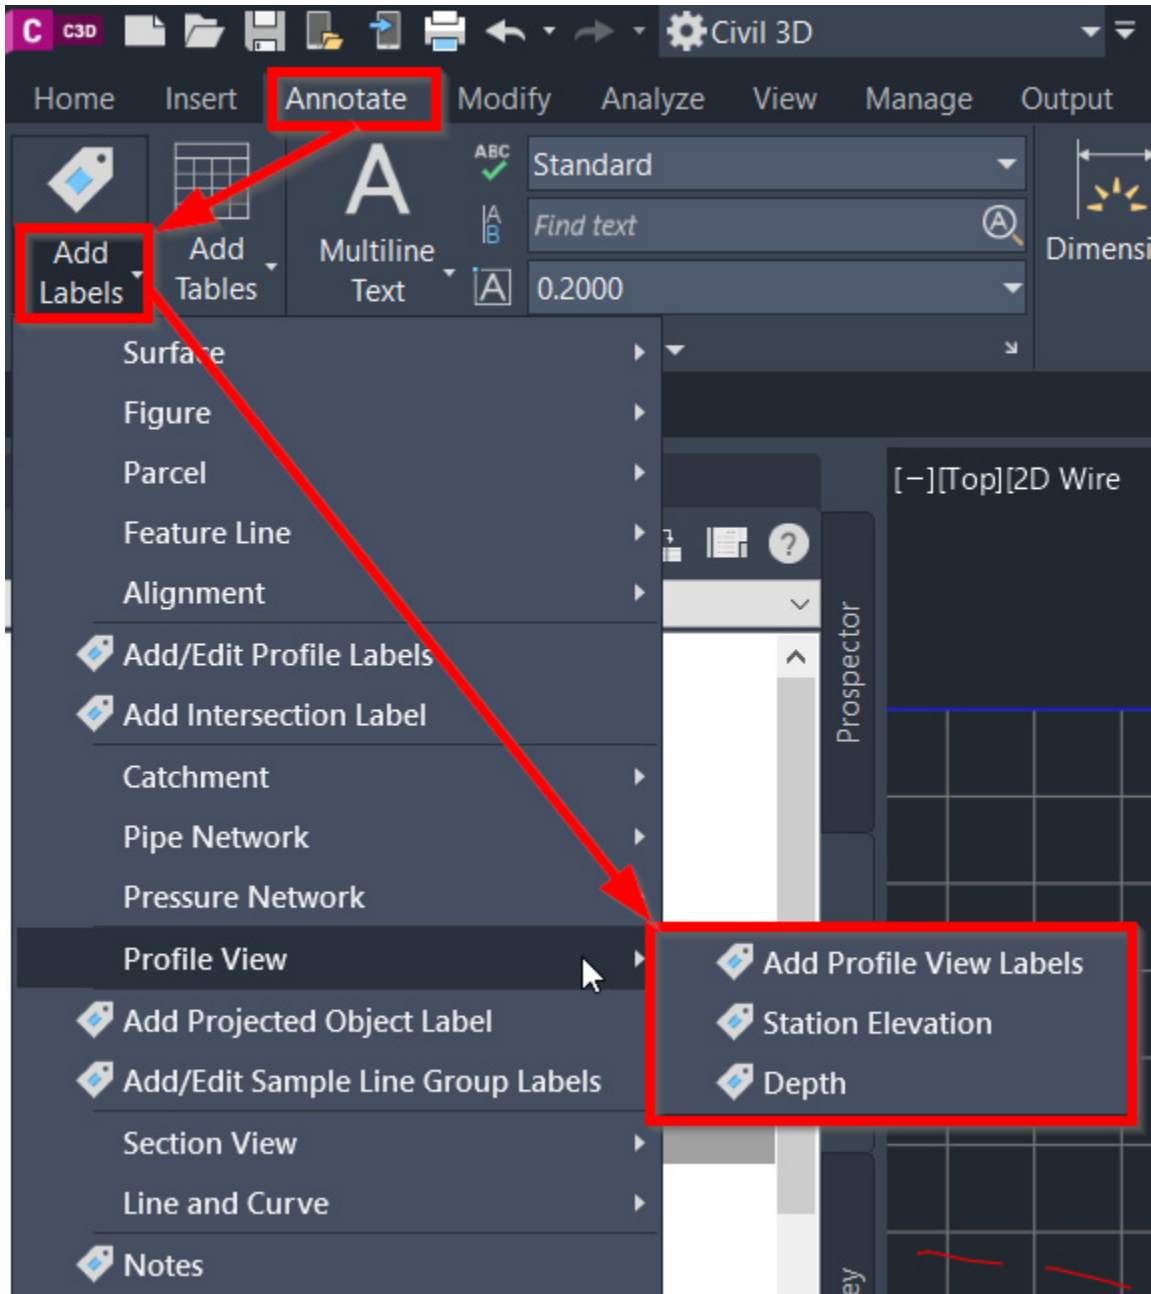

Figure 8.28 – Workflow for adding profile view labels
- **Station Elevation:** Allows us to create and apply individual station and elevation labels within **Profile View** (refer to *Figure 8.28* for workflow and location)